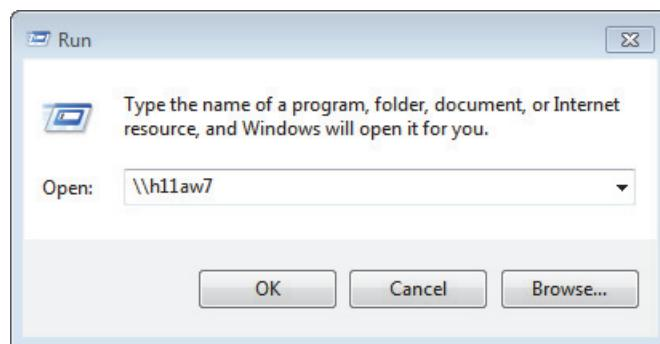

Figure 1-12. Accessing Station with Security Enhanced Foxboro Evo Control Core Services Software
1. On a station with security enhancements, before starting System Manager, click **Start -> Run**. In the Open: text field, type the name of the station, for example, \\h11aw7 as shown in Figure 1-12. Then, click **OK**.